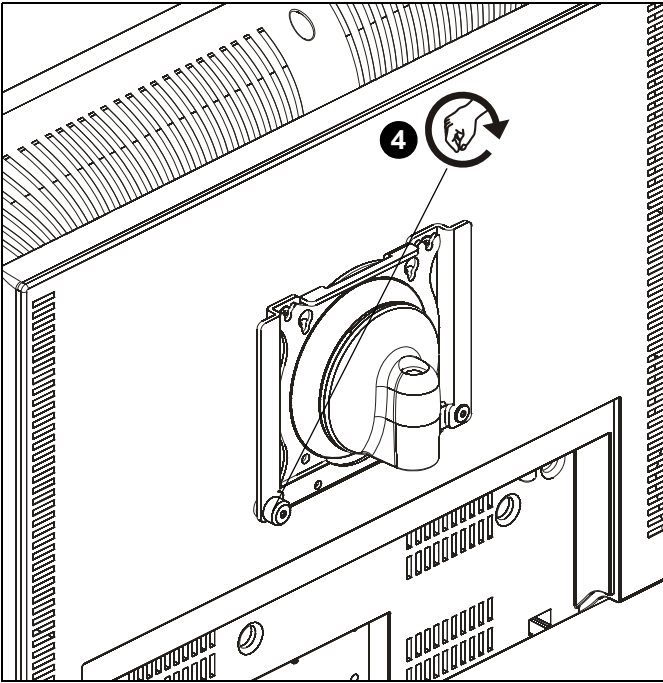

Figure 5
4. Tighten thumbnut on bracket flag to secure bracket to Centris plate. (See Figure 5)